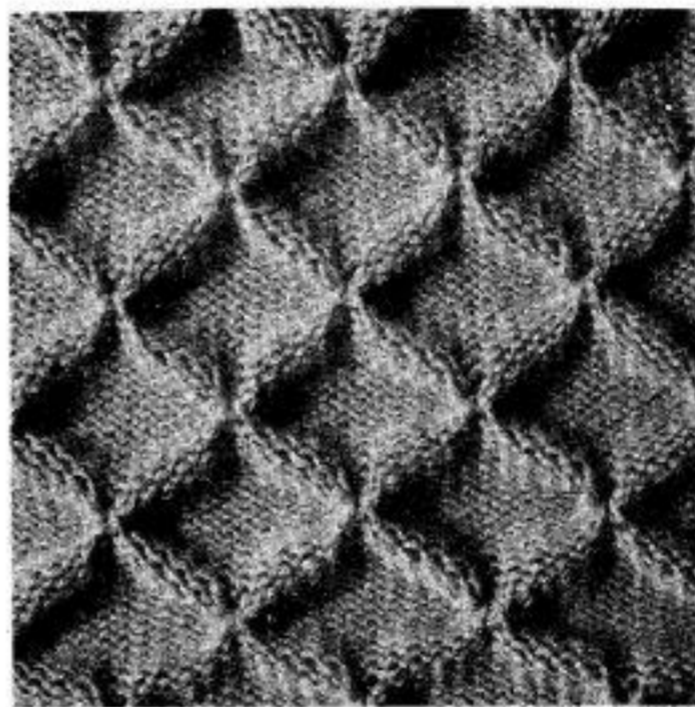
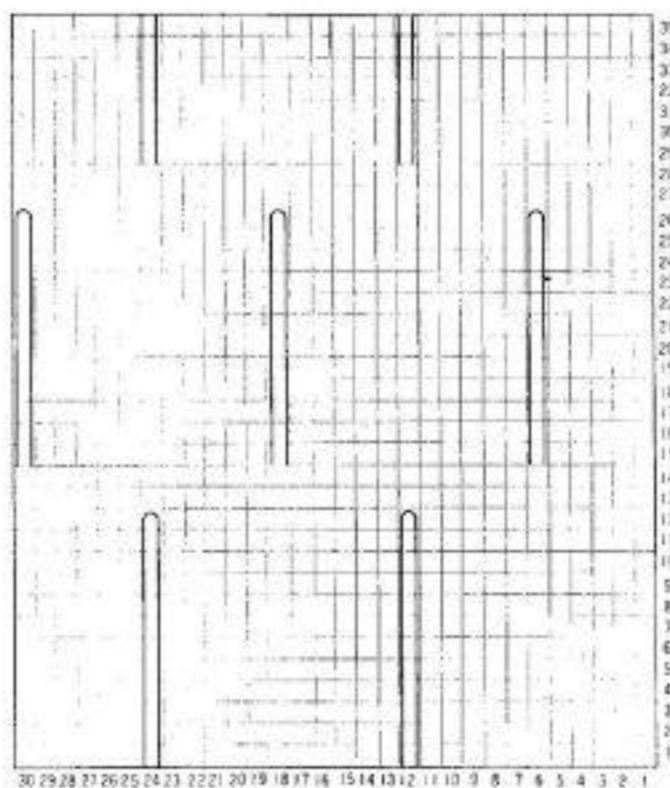

Fig. 25
Fig. 26
As in the case of Colour Pattern work if the Tucking Pattern repeats at intervals of 11 or more stitches (Figs. 25 & 26) the following manual method is employed.
Knit the number of rows required by the pattern with the selected needles remaining in the Holding Position. In the pattern illustrated at Fig. 25 every 12th needle is in Position (E) and 11 rows are knitted with these needles remaining in the Holding Position.
(3) Before knitting the 12th row of the pattern illustrated at Fig. 25 the Return Cam Levers are pulled FORWARD into Position "2" so that the holding needles will knit along with the rest. At the end of the 12th row the Return Cam Levers must be pushed BACK into Position "1". After 3 rows of knitting over all the needles another sequence of single needles is brought forward into Position (E) and the procedure is repeated. (Figs. 26, 27 & 28)